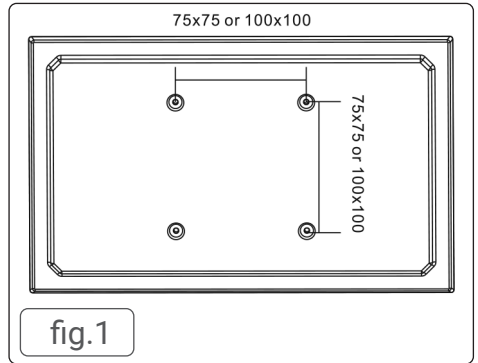

fig.1
- Make sure the VESA holes 100 x 100 mm or 75 x 75 mm in the monitor (fig.1).